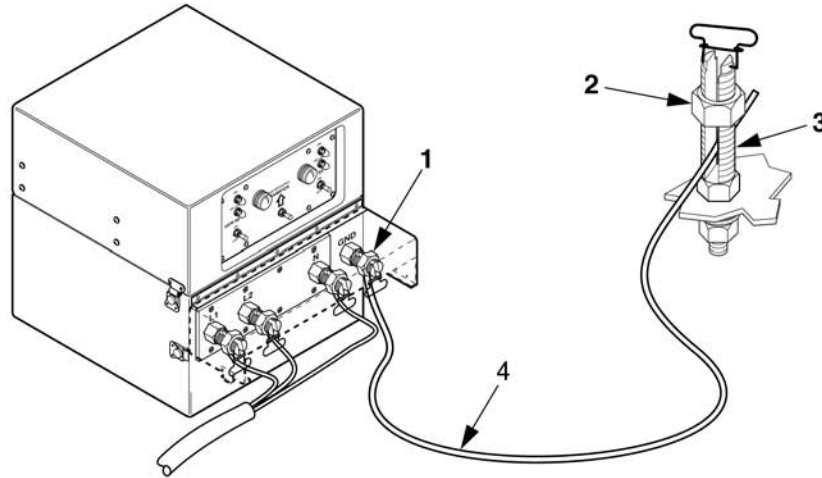

Figure 2-12. Remove Ground Cable.
- a. Loosen terminal nut (1, Figure 2-12) and ground stud nut (2). Remove ground cable (4) from ground stud (3).